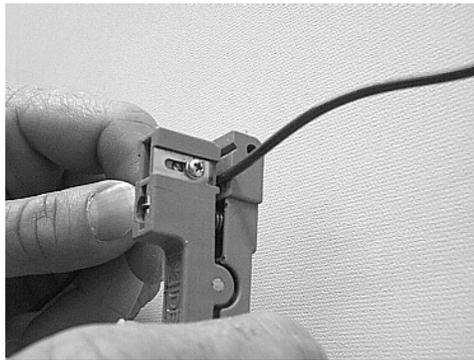

Figure 37 – Cut the buffer tubes to the required length.
7.14 Consult the closure instructions for the required buffer tube length inside the closure. Use a buffer tube removal tool to ring cut and remove the buffer tubes from the fibers (Figure 37).